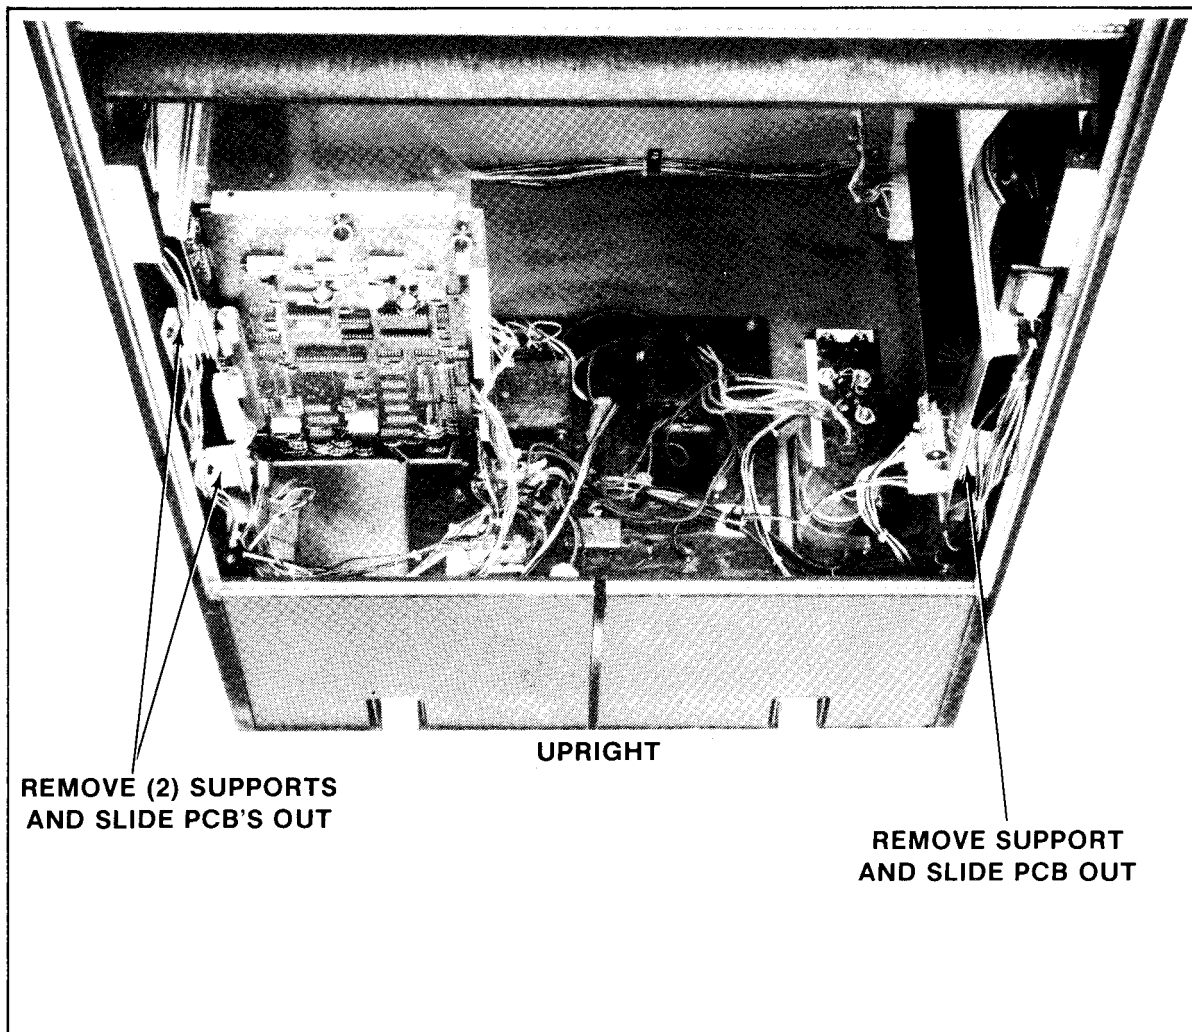

FIGURE 31
1. Upright model — See Figure 31.
- d. Disconnect the mother board from all its cabling, remove the P.C.B. supports indicated in Figure 31, and slide the mother board out the back of the cabinet.
- e. Disconnect the linear power supply board from all its cabling, remove the P.C.B. supports indicated in Figure 31, and slide the linear power supply board out the back of the cabinet.